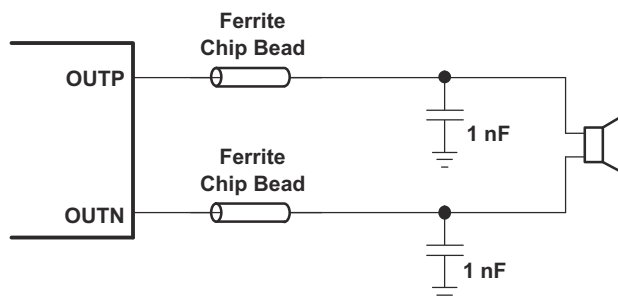

FIG 8-3. Typical Ferrite Chip Bead Filter (Chip Bead Example: NFZ2MSM series from Murata)
- Output filter—The ferrite EMI filter (Figure 8-3) should be placed as close to the output pins as possible for the best EMI performance. The capacitors used in the ferrite should be grounded to power ground.